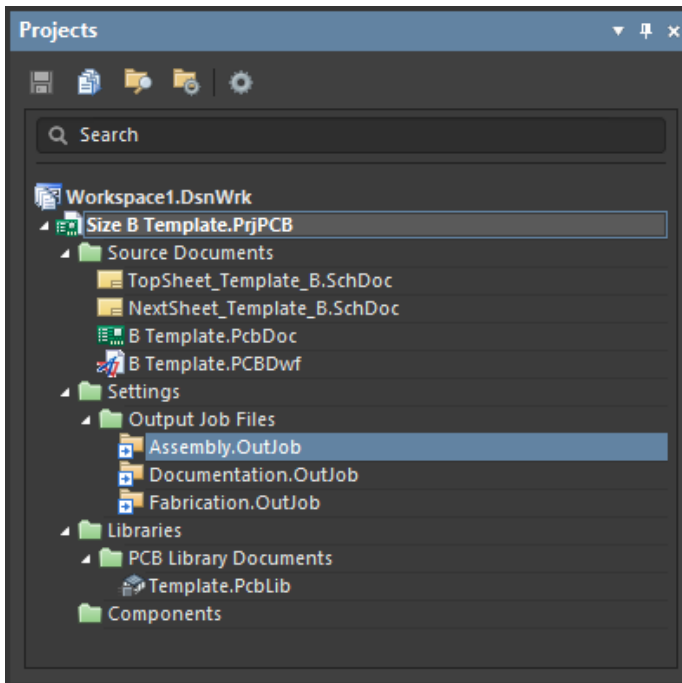
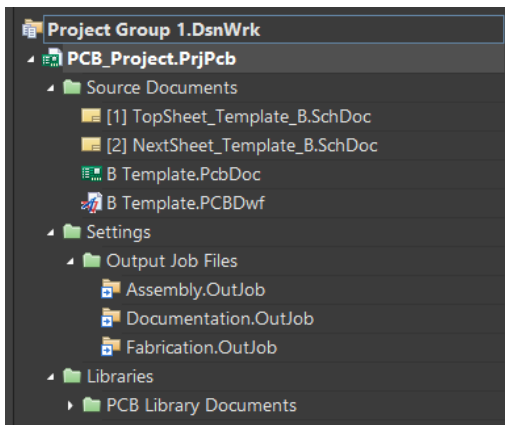

Figure 25. Final Template project
Figure 28: New Project from our Template
74. The final project should appear similar to what is shown in Figure 25. Note, if you validate the project the Components folder will appear. Close the project.
85. Expand out the folders in the Projects panel, compare to Figure 25. They should be identical, as shown in Figure 28 below.